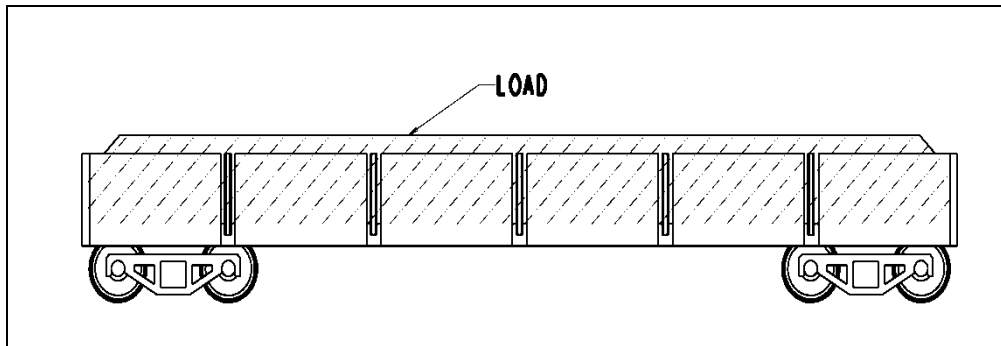

Figure 1 - Load uniformly distributed over the length of the wagon.
- The wagon must be considered as consisting of two equal halves, left and right, when viewed from the side. The load placed on either half of the wagon must be as equal as possible. See Figure 1.